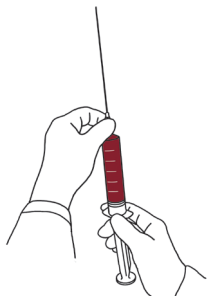

Figure 5
- Remove the syringe tip cap from the syringe and attach a supplied cannula (Figure 5).